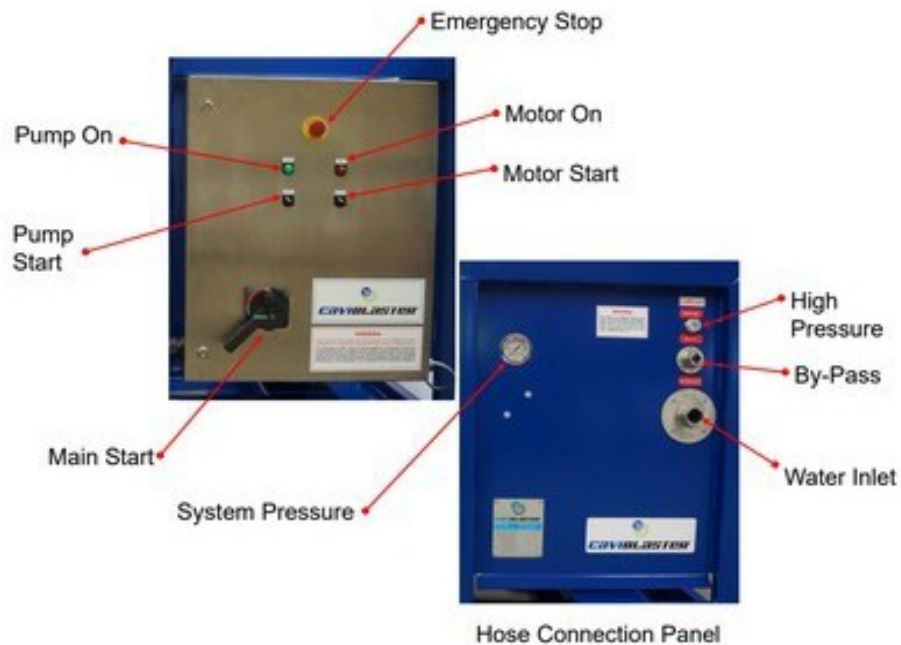

Figure 2.2 – CaviBlaster 2828-E60 Control Panel
10. Connect the bypass hose (See **Figure 2.2**).
11. Connect the pressure hose (See **Figure 2.2**).
Attention to priming the system is necessary. The feed water suction hose inlet connection is located on the water connection panel (See **Figure 2.2**). The (clear) suction hose should be straight and at a slight downward angle from the inlet connection on the water connection panel, with no “humps” in the hose so that trapping of air pockets and creating an air lock is minimized. During the priming cycle the suction hose should always remain below the height of the inlet connection unless connecting with a positive pressure water source.
2. Ensure the E-Stop button is pushed "IN" so that the power supply has been disconnected. (See **Figure 2.2**).
3. Connect the cam-lock socket on the 1-1/2" clear PVC feed hose to the water inlet connection on the control panel (See **Figure 2.2**). Place the other end of the hose in the water supply.
2. Ensure the E-Stop button is pushed "IN" so that the power supply has been disconnected (See **Figure 2.2**).
4. Connect a 1-1/2" cam-lock socket on the water supply hose to the water inlet connection on the control panel (See **Figure 2.2**). Confirm system is primed.
1. Locate the water supply tank so that the outlet of the supply tank is higher than the water inlet on the control panel (See **Figures 2.2 and 4.3**).
3. Ensure the E-Stop button is pushed "IN" so that the power supply has been disconnected (See **Figure 2.2**).